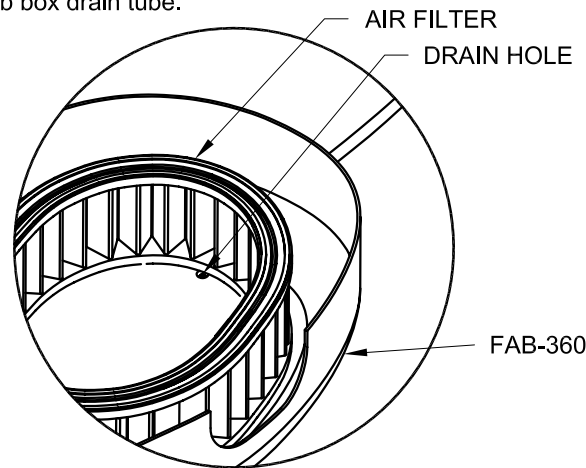
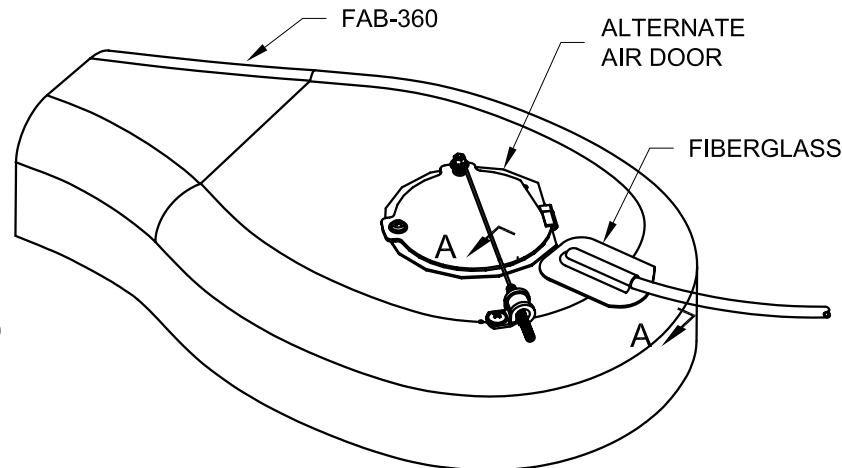

FIGURE 3: DRILLING THE DRAIN HOLE
FIGURE 2: GLASSING ON THE FAB BOX DRAIN TUBE
NOTE: Installation of the Fab Box Drain Tube is optional. If not using the fab box drain tube a drain hole must still be created, see Step 5. The fab box drain tube will prevent fuel from dripping onto the nose gear leg fairing. The alternate air door (see Figure 2) should be installed before installation of the fab box drain tube.
Step 3: Roughen the lower surface of the FAB-360 Filtered Air Box just aft of the alternate air door opening where the fiberglass used to hold on the Fab Box Drain Tube will attach. See Figure 2.
Step 4: Center the Fab Box Drain Tube and Plug on the bottom side of the FAB-360 Filtered Air Box as shown in and per the dimension given in Figure 2. Cover the fab box drain tube in four layers of 9 oz. fiberglass and epoxy resin. Allow the resin to cure.
Step 5: Drill a #19 hole in front of the Air Filter, centered on the Fab Box Drain Tube. See Figure 2 and Figure 3. Deburr the top edge of this hole. Blow out any debris in the fab box drain tube.